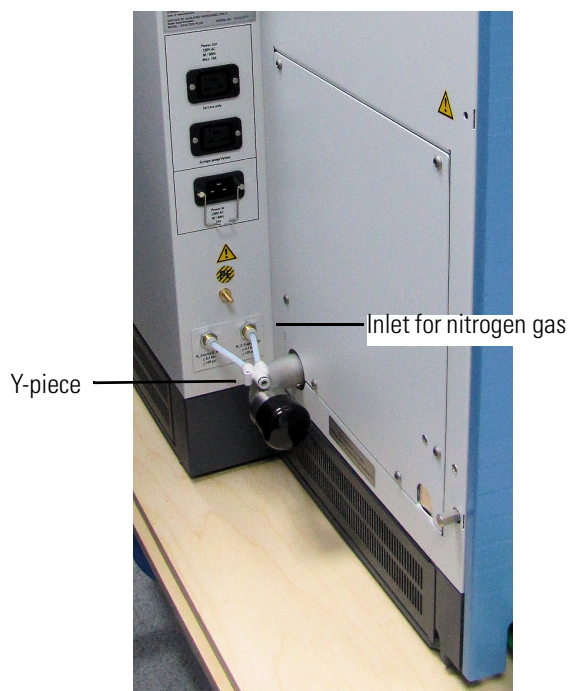

Figure 5-6. Connecting the gas supply
2. Insert the opposite end of the Teflon tubing into the press-in fitting of the y-piece that is attached to the gas ports at the rear side of the instrument. See Figure 5-6. To connect the tubing, align the Teflon tubing with the opening in the fitting and firmly push the tubing into the fitting until the tubing is secure.